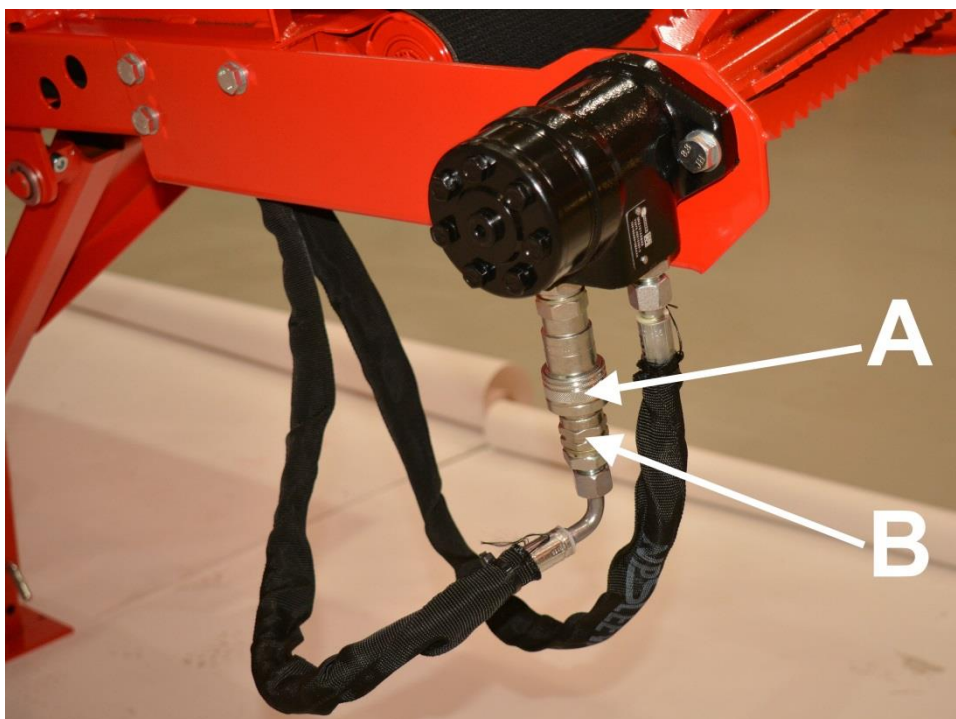

Figure 21.
2. Remove hose B from quick coupling A (Figure 21).